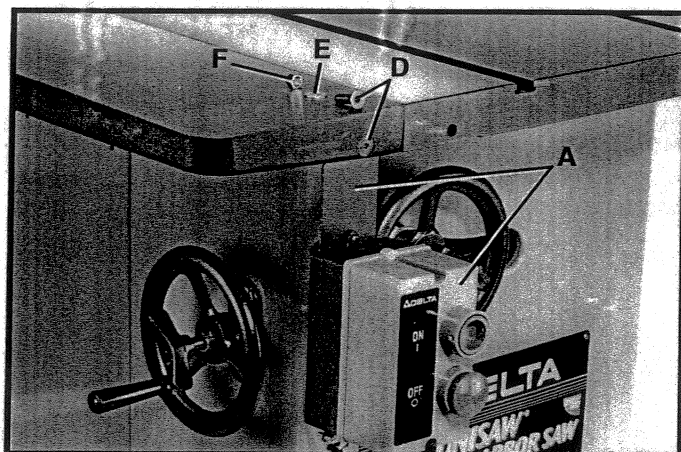

Fig. 6
4. Loosely assemble switch and switch bracket (A) Fig. 6, to the inside front lip of extension table with hex flat head screw (D), flat washer (E), and hex nut (F), as shown.